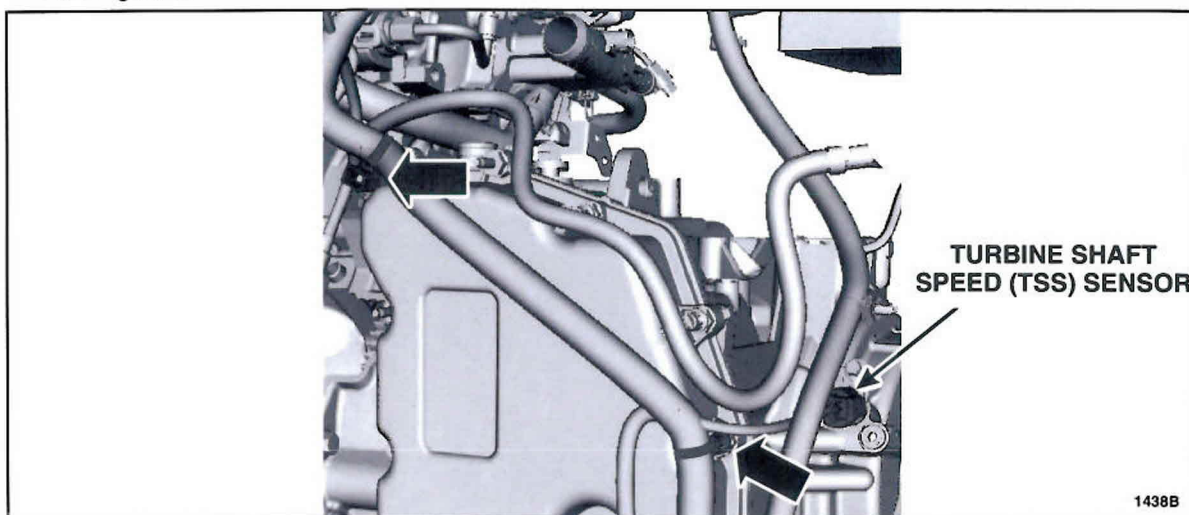

FIGURE 2
5. Disconnect the two wire harness retainers and disconnect the Turbine Shaft Speed (TSS) Sensor. See Figure 2.
21. Connect the two wire harness retainers and connect the TSS sensor. See Figure 2.